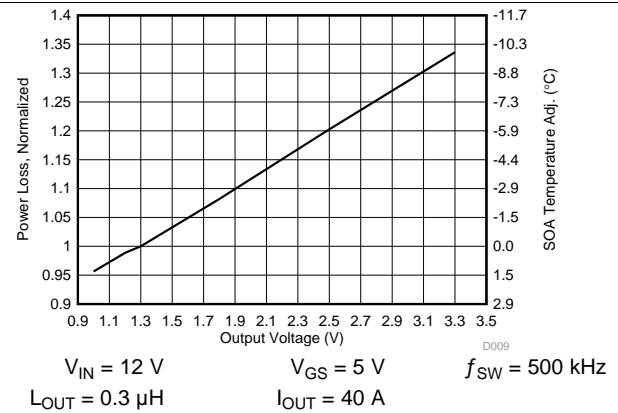

Figure 8. Normalized Power Loss vs. Output Voltage
- Normalized Power Loss for output voltage ≈ 0.95 (Figure 8)
- SOA adjustment for output voltage $\approx -1.3^\circ\text{C}$ (Figure 8)